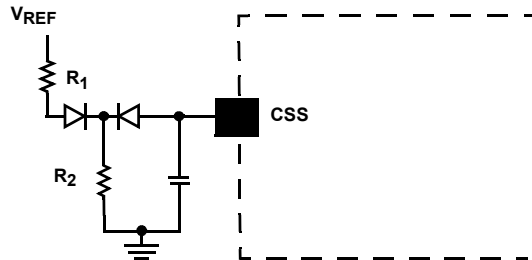

FIGURE 8. REFERENCE-BASED CLAMP CIRCUIT
- Per Equation 3, the clamping voltage is a function of the charge current I_{SS} . For a more predictable clamping voltage, the CSS pin can be connected to a reference-based clamp circuit as shown in Figure 8. To make the V_{clamp} less dependent on the soft-start current (I_{SS}), the currents flowing through R_1 and R_2 should be scaled much greater than I_{SS} . The relationship of this circuit can be found in Equation 4.